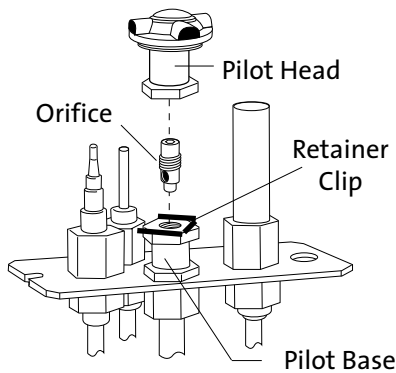

Figure 26. Pilot injector removal and replacement.
12. **CHANGE THE PILOT ORIFICE:** From within the firebox, remove the Pilot Head by pulling it straight up from the pilot base. See fig. 26. Using the 4 mm hex key included with the kit, unscrew the pilot orifice (counterclockwise). Install the appropriate orifice from the kit.